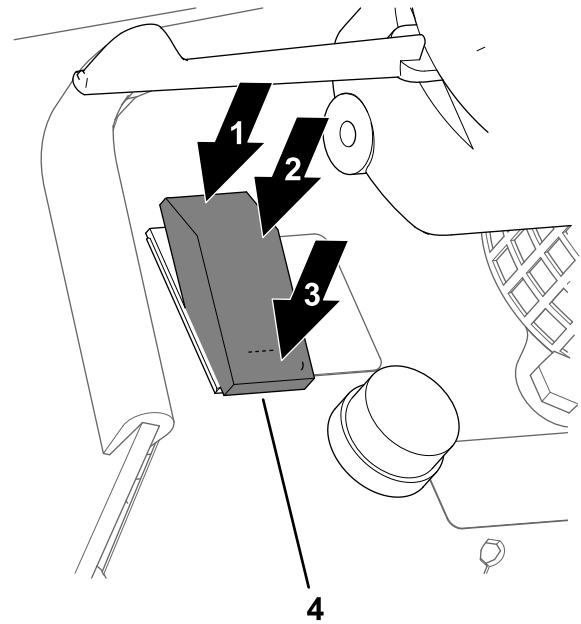

Figure 70
- Move the light switch forward (toward the shoulder end of the switch) to turn the worklights to the ON position (Figure 70).
- Move the light switch to the middle position to turn the lights OFF position (Figure 70).
- Move the light switch rearward (toward the sloped end of the switch) to turn the headlights to the ON position (Figure 70).